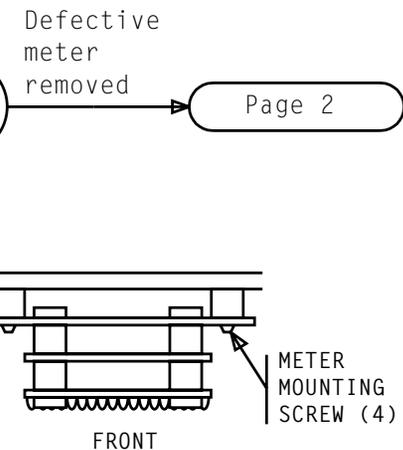

Figure 2 - Mounted Meter - Top View
- [9] Remove four meter mounting screws [Figure 2] holding meter to mounting bracket and remove meter
[10] Holding new meter in place, install and tighten four meter mounting screws [Figure 2, Page 1]